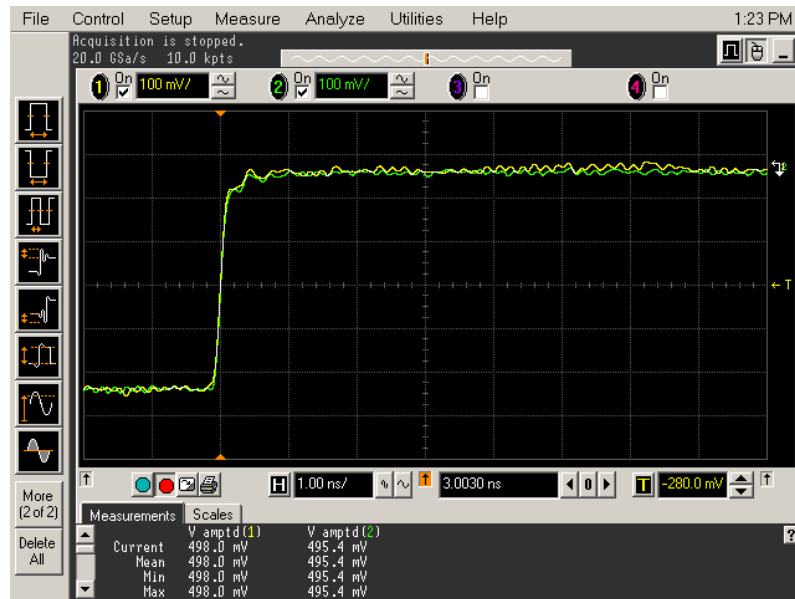

Figure 46 Overlapping Waveforms
- 23 In the Acquisition Setup dialog box enable averaging. When you close the dialog box, you should see waveforms similar to that in **Figure 46** on page 74.